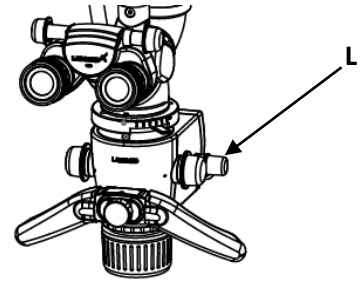

Fig. 42
Refer Fig. 42 (L). Filter change Lever is located in left side of the magnichanger housing. Use lever by pulling out to change the filter and push back to main light.